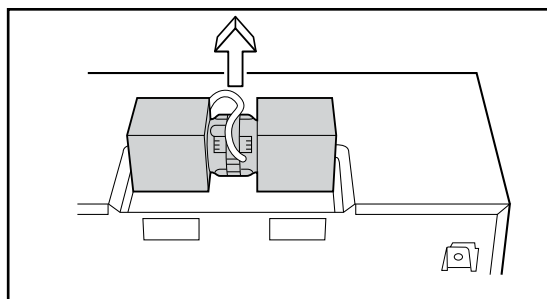

Figure 13
2. Lift the Hood Fan Unit carefully and slip wires out of cavity. See Figure 13.